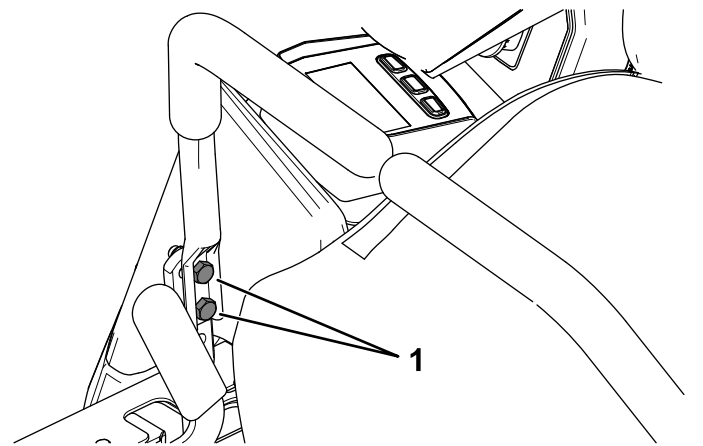

Figure 52
- 12. Tighten the 2 motion-control lever mounting bolts (Figure 52).
10. If alignment is needed, loosen the 2 motion-control lever mounting bolts on the misaligned side (Figure 52).